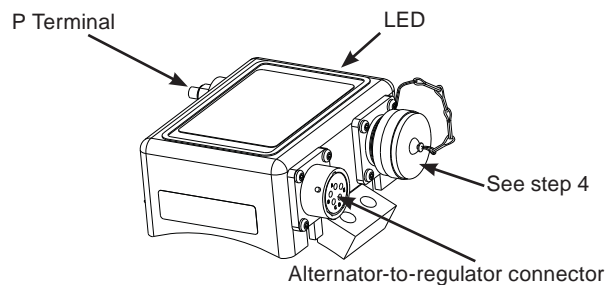

Figure 2 – A2-344/A2-348 Alternator-mounted Regulators
- Mount A2-344 or A2-348 curved-base regulator on alternator in the same position as the previous regulator. Use screws and washers (if supplied). Torque regulator mounting screws to 8.5 Nm/75 lb. in. See Figure 2.
4. See Figure 2 or 3:
- c. A9-4050 harness has two additional wire connections for regulators requiring external ignition feed or D+ voltage sense/reference signal. See Figure 2.